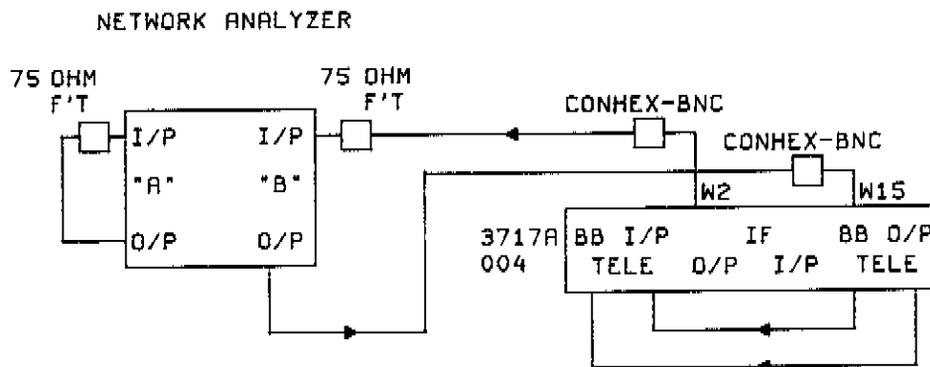
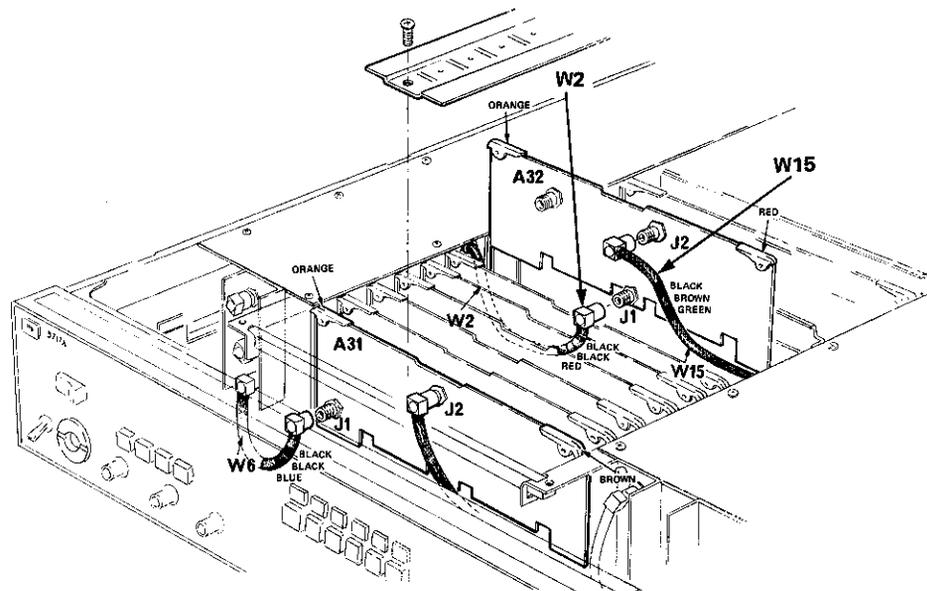

Figure 4-13 Option 004 BB-to-BB Frequency Response Test
Figure 4-14 Internal Location of W2 and W15
- Switch the 3717A OFF, remove the line cord from the instrument and remove the two upper rear feet if fitted, before unscrewing the top cover. Remove the central metal strap and lift A32, see Figure 4-14.
- Refer to Figure 4-14 and disconnect the brown-green coded cable (W15) from A32J2 and connect the "B" OUTPUT of the Network Analyzer via a 75 Ohm Conhex to BNC adapter to the free end of W15 as shown in Figure 4-13.
- Disconnect the red coded cable (W2) from A32J1 and connect the "B" INPUT of the Network Analyzer via a 75 Ohm Conhex to BNC adapter to the free end of W2 as shown in Figure 4-13.
- Switch the 3717A OFF, refer to Figure 4-14 and reconnect W2 and W15 to A32, install A32 in its slot, replace the central metal strap, top cover and if fitted, the two upper rear feet.